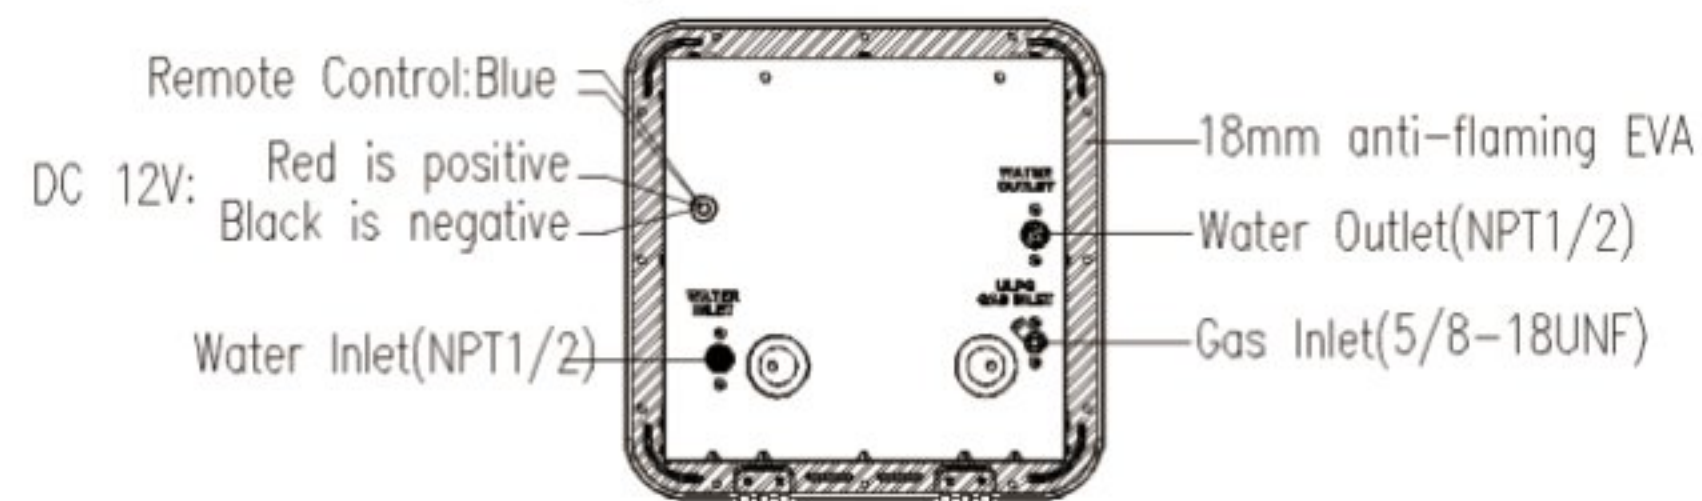

Figure 19
- d) Refer to the specification of gas inlet on Page 6. Install a gas service valve on the gas inlet pipe. Correctly connect the gas pipe to gas inlet at the back of the water heater -- see Figure 19.